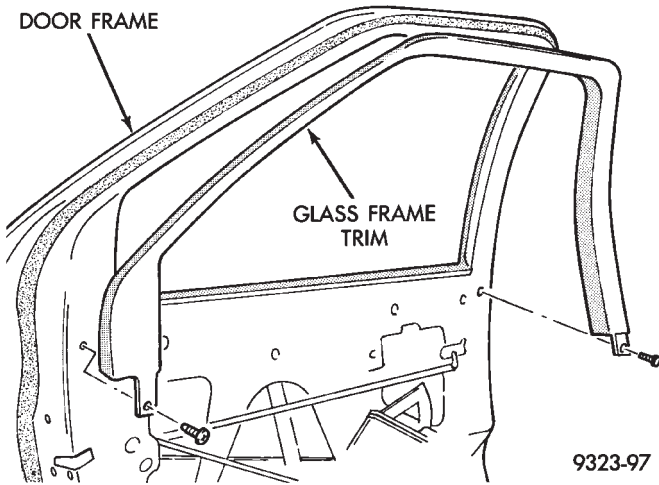

Fig. 38 Rear Door Glass Frame Trim
- (2) Remove screws holding door glass frame trim to door panel (Fig. 38).
- (3) Separate trim from door glass frame.